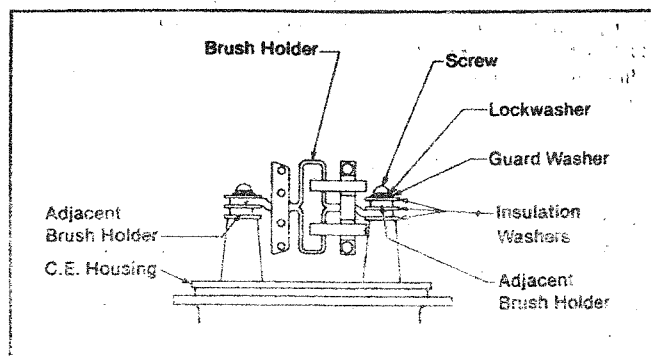

Figure 21
1.3.3 Install brush holders on mounting posts with insulation washers, guard washers, lockwashers, and screws, as shown in figure 21. Install an 8-32 x .62